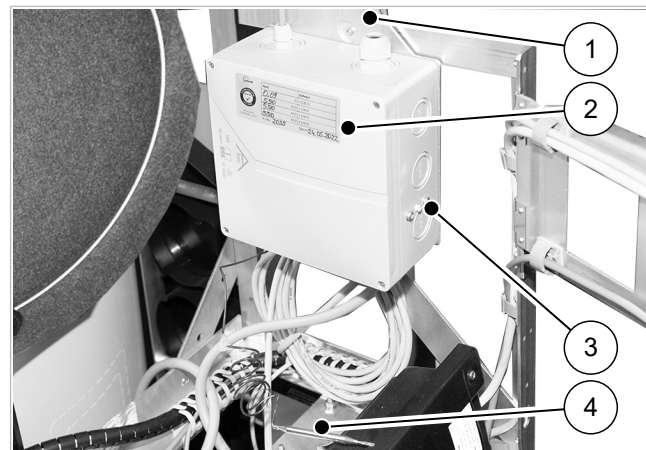

Fig. 30: Connection box for heating cartridge, fitted
1. Push the safety temperature limiter (4, → fig. 30) into the sleeve of the heating cartridge and secure it with the spring connector supplied.